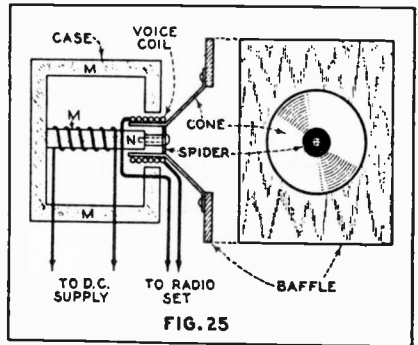

FIG. 25
The first requirement of such a speaker is that no permanent magnets are used, a cross-section of such a unit is shown in Fig. 25. A large, heavy, iron case (M) is built in the form of a cylinder with a large center portion MN. Over this center portion is wound many turns of fine wire (similar to that of an A.F. choke), the terminals of which connect to a D.C. source of supply. This source may be batteries, a separate rectifier, or in many cases this winding (called the field) is used as one of the chokes in a filter unit. In any event, the bar MN is magnetized. Over one end of the bar, but separated from it, is placed a small coil, wound with a few turns of fine wire; this coil is called the voice coil and connects directly to the output of the radio set. When a signal is impressed across the terminals of the voice coil, it generates a magnetic field (exactly similar to that of the field coil); this field is varying according to the variations of the signal and reacts with the steady field to produce motion of the voice coil. Now, rigidly attached to this voice coil is a large cone-shaped piece of paper
In order to increase the response of the very low notes, a large board is attached to the cone by means of brackets as shown in the right-hand sketch of Fig. 25. This board should be at least one foot in length on each side in order for it to be effective. This board is called a baffle and is to be found on every radio set using a dynamic speaker.